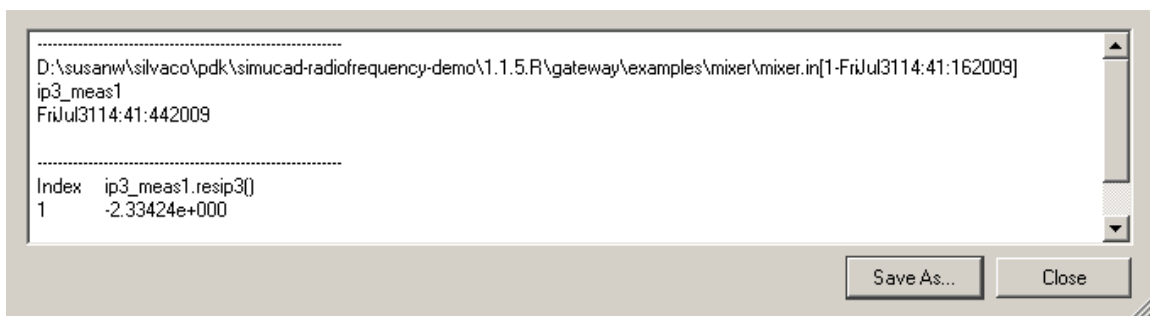

Figure 15: View Data Window: IIP3 = -2.33 dBm
2.12.2: In SMARTSPICERF, you can see the actual values that are being plotted. To view its, select vector “resip3” from “ip3_meas1” and press **View Data**. IP3 value will be shown in window as on Figure 15.